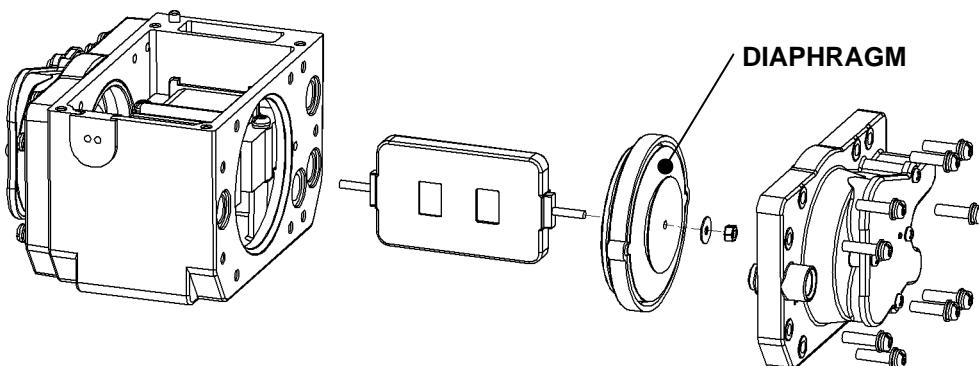

Figure 2
- B. Loosen the nine screws and disassemble the diaphragm housing. (As shown in figure 2)